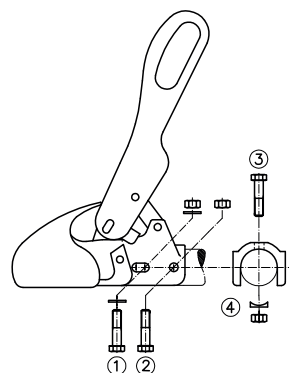

Fig. 3:
The WS 3000-H/L/LB are specially designed for inertia braking systems and are fitted with crossways screw connection (1)+(3) and **40 mm** hole spacing (Fig. 3). The fastening material is not included with the product.
2.2 If the WS 3000/3500 coupling is being used as replacement for another type of coupling, attention must be paid in respect of the overrun device that the shock absorbers are correctly fitted and that any spacers in the drawbar are correctly reinstalled. With the WS 3000-D, please use the provided Ø 12x34 mm or Ø 12x49 mm bolts to assist with this depending on the size of the drawbar diameter. Use Ø 14x63 mm bolts for the WS 3500-D. Please use the provided Ø 12x34 mm or Ø 12x49 mm bolts as to assist with this depending on the size of the drawbar diameter. Use bolts to push through when removing the fastening screw (2) or (3) (Fig. 3) depending on the type of shock absorber fastening, and insert in the drawbar for centering the shock absorber when connecting/dismantling the ball coupling. Remove the bolt again when inserting the new fastening screw.